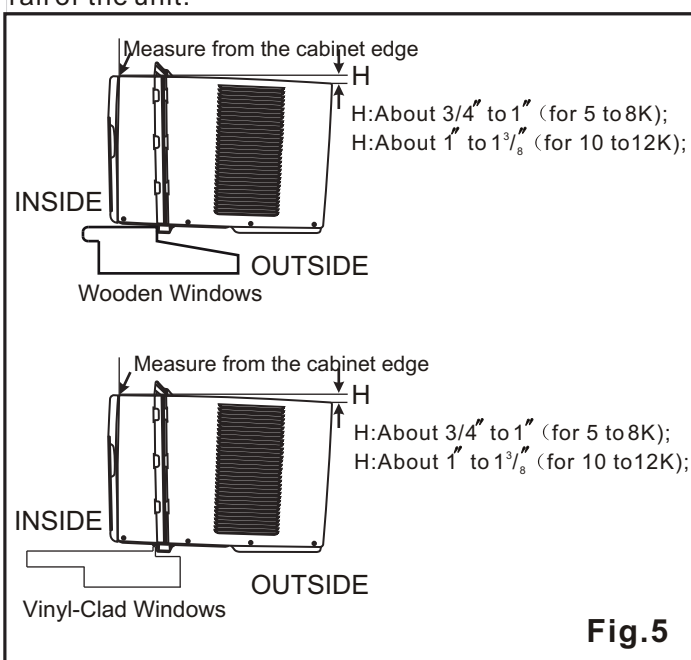

Fig.5
- A. Keep a firm grip on the air conditioner, carefully place the unit into the window opening so the bottom of the air conditioner frame is against the window sill (Fig.5). Carefully close the window behind the top rail of the unit.
NOTE: Check that air conditioner is tilted back per dimension H (Fig. 5) (tilted about 3° to 4° downward to the outside). After proper installation, condensate should not drain from the overflow drain hole during normal use. Adjust the slope if otherwise.